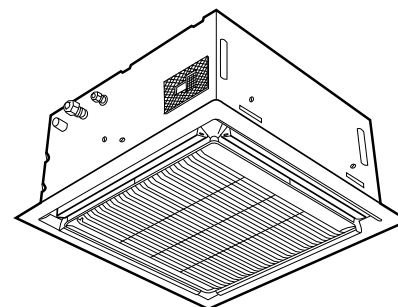

Fig. 1 — 619F Fan Coil Unit (024 shown)
1. Read and become familiar with these installation instructions before installing this unit. See Fig. 1.
Upon receipt of shipment, check unit (Fig. 1) for damage. Forward claim papers directly to the transportation company. Manufacturer is not responsible for damage incurred in transit.